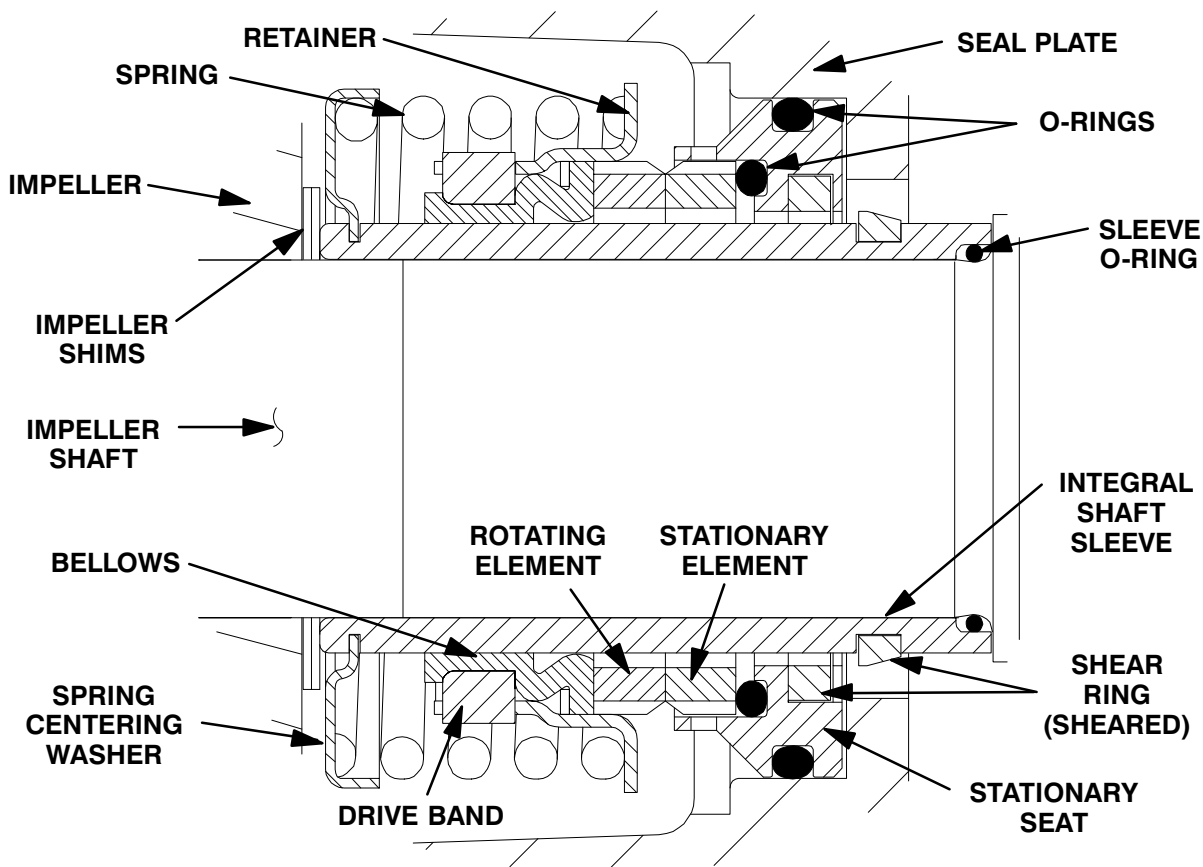

Figure 9. Cartridge Seal Assembly
To ease installation of the seal, lubricate the shaft sleeve O-ring (27) and the external stationary seat O-ring with a very **small** amount of light lubricating oil. See Figure 9 for seal part identification.